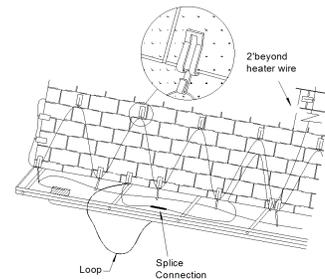

Fig. 3 Sensor Wire Application with Gutter
2. Lay the Splice Connection and sensor wire along the bottom of the gutter within two inches of the roof de-icing cable. *Route the sensor wire over at least one gutter support strap or nail, in order to sense the full depth of the gutter*, then route along one triangular weave of the heating cable on the roof as per diagram. At the peak of the second triangle, attach the sensor wire up the roof, at least 2 feet (60.96 cm) past the heater wire as illustrated. Use the clips provided to secure the sensor wire to the roof. Gently squeeze the coated end of the clip around the sensor wire. See Fig. 3. Use one of the included spacers, create a drip loop on the probe lead on the housing end.